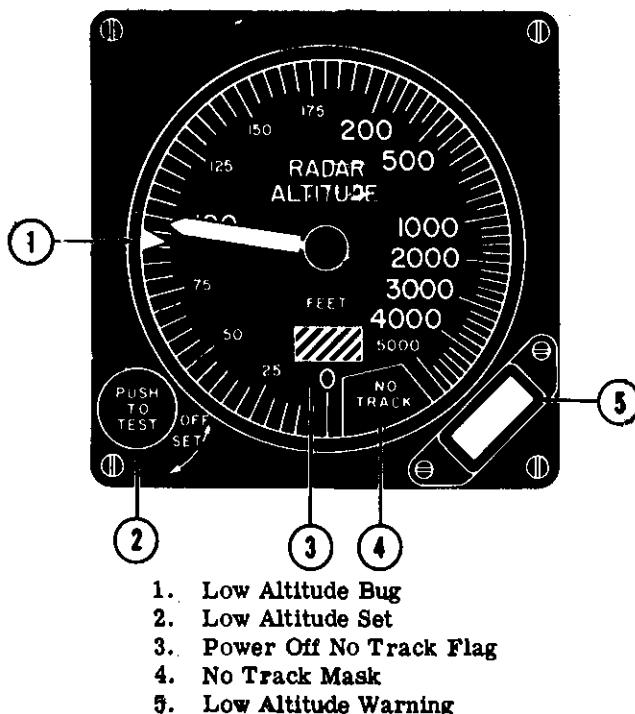

Figure 4-17. Radar altimeter – AN/APN-171(V)
The electronic radar altimeter set (figure 4-17) is powered by 28V DC and 115V AC 400 Hz, and protected by three circuit breakers marked RADAR ALT.
2. Indicator control knob (figure 4-17) – Rotate clockwise from OFF.